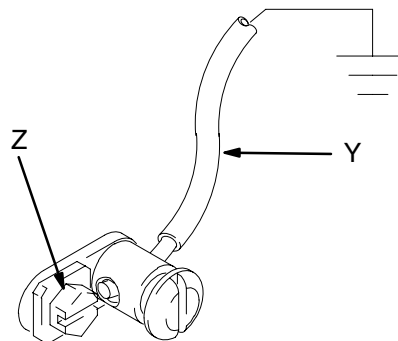

Fig. 1
- **Pump:** Use ground wire and clamp as shown in Fig. 1.
To ground the pump, use a ground wire and clamp as shown below. Remove the ground screw (Z) and insert through the eye of ring terminal at end of ground wire (Y). Fasten the ground screw back onto the pump and tighten securely. Connect the other end of the ground wire to a true earth ground. See Fig. 1. *To order a ground wire and clamp, order Part No. 222011.*